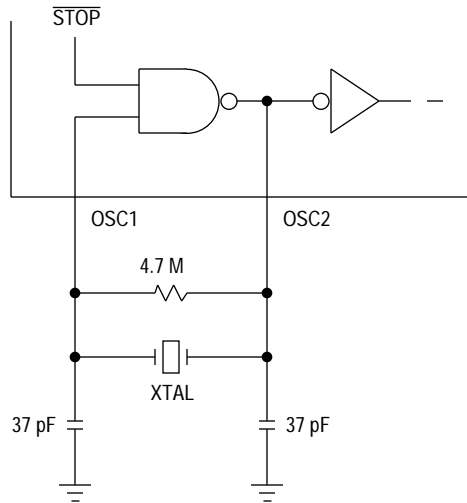

Figure 2-2. Crystal/Ceramic Resonator Connections
- A crystal (Refer to Figure 2-2.)
- A ceramic resonator (Refer to Figure 2-2)
The circuit in Figure 2-2 shows a typical crystal oscillator circuit for a parallel resonant crystal. Follow the crystal supplier's recommendations, as the crystal parameters determine the external component values required to provide maximum stability and reliable start-up. The load capacitance values used in the oscillator circuit design should include all stray layout capacitances. Mount the crystal and components as close as possible to the pins for start-up stabilization and to minimize output distortion.
In cost-sensitive applications, use a ceramic resonator in place of the crystal. Use the circuit in Figure 2-2 for a ceramic resonator, and follow the resonator manufacturer's recommendations, as the resonator parameters determine the external component values required for maximum stability and reliable starting. The load capacitance values used in the oscillator circuit design should include all stray layout capacitances.